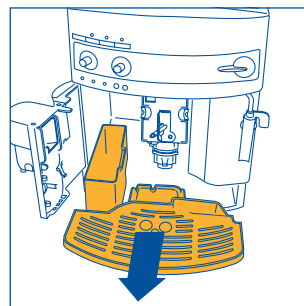

Fig. 16
NOTE 7: the machine counts the number of cups of coffee made. Each 14 single cups (or 7 double cups), the 📊 light switches on steady (section 12 point 3), warning the user that the grounds container is full and must be emptied and cleaned. Until the grounds container has been cleaned, the light will remain on and the machine cannot deliver coffee. To clean the container, open the service door on the front (pulling the handle, Fig. 15), the ⚠ light flashes (see section 12, point 9); remove the drip tray (Fig. 16), empty and clean. Empty and carefully clean the grounds container, making sure to remove all the residue that may be deposited on the bottom. Also, dry off any condensation that may have formed that may have formed inside the machine under the drip tray. **IMPORTANT: when removing the drip tray, the grounds container MUST be emptied, even if it is not completely full. If this is not done, when making your next coffee, the grounds the grounds container may fill over the maximum level and block the machine.**
- remove the drip tray and the grounds container (Fig. 16) and clean them;